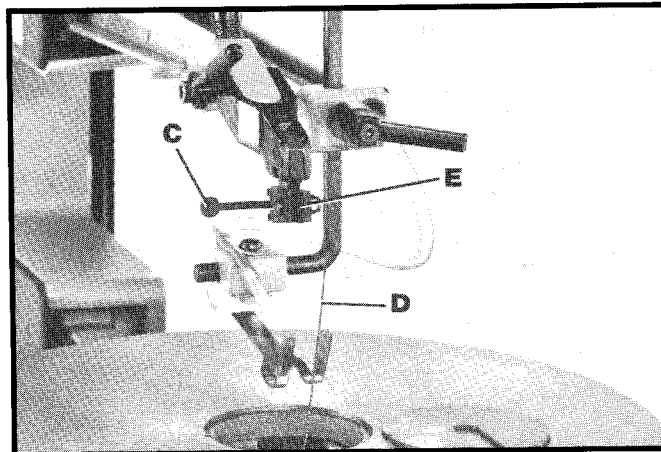

Fig. 24
3. Push chuck locking lever (C) Fig. 24, to the rear as shown. This will automatically release the blade (D) from the upper chuck (E).